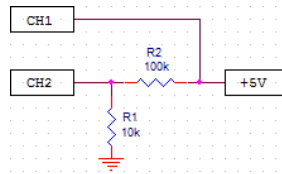

Figure 56: Resistor divider
- 1) Build the circuit shown on figure 56.